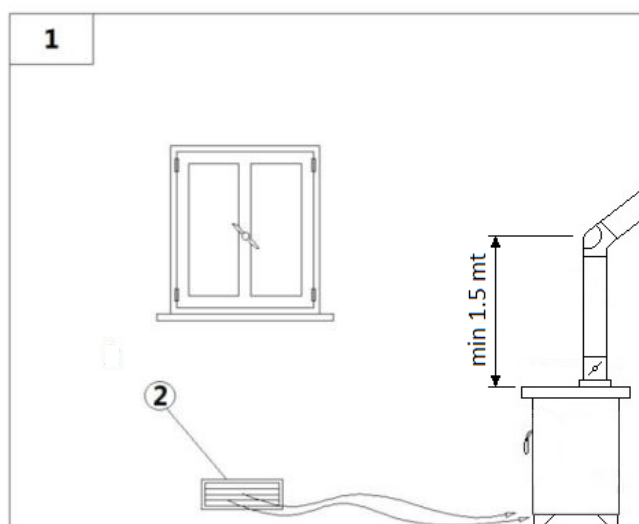

Fig. 5 - Direct air inflow
LEGEND Fig. 5 page 7
- The air inflow from outside to the inner occurs directly, through an opening on the external wall of the room (see **Fig. 5 page 7**).